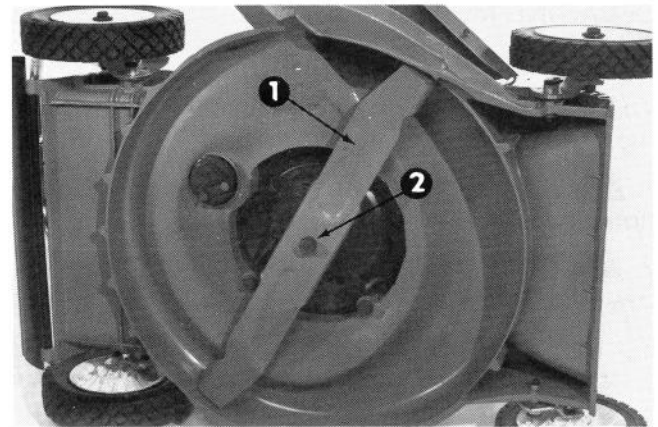

Figure 27
3. Tip mower on its left side. Grasp end of blade using a rag or thickly padded glove. Remove blade bolt, lockwasher, and blade (Fig. 27).